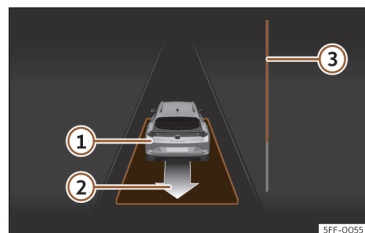

Fig. 196 On the instrument panel display: exit a parallel parking space.
- Reverse until the continuous ParkPilot signal sounds; **OR:** reverse until the instrument panel display shows the forward indication. The progress bar  **Fig. 196**  indicates the distance to cover  page 279.